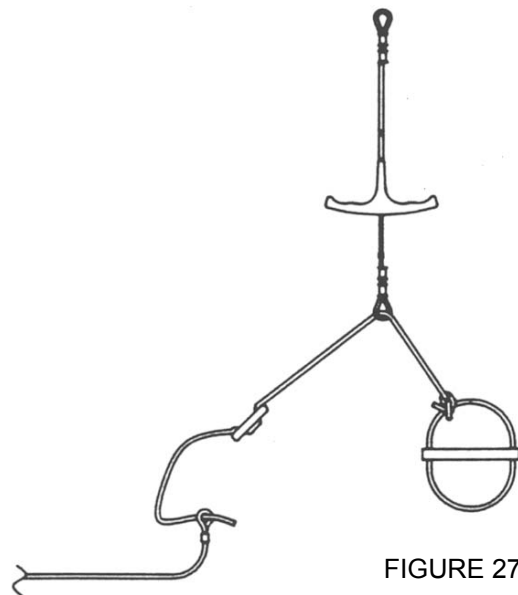

FIGURE 27
15.3 Arrange the trapeze wires so they lead outside of the shrouds. Then tie the line to the J & H handle with a bowline knot. After the line is led through the thimble on the end of the trapeze wire, attach the rope lock. Then tie the end of the line to the shock cord with another bowline knot. (FIGURE 27)